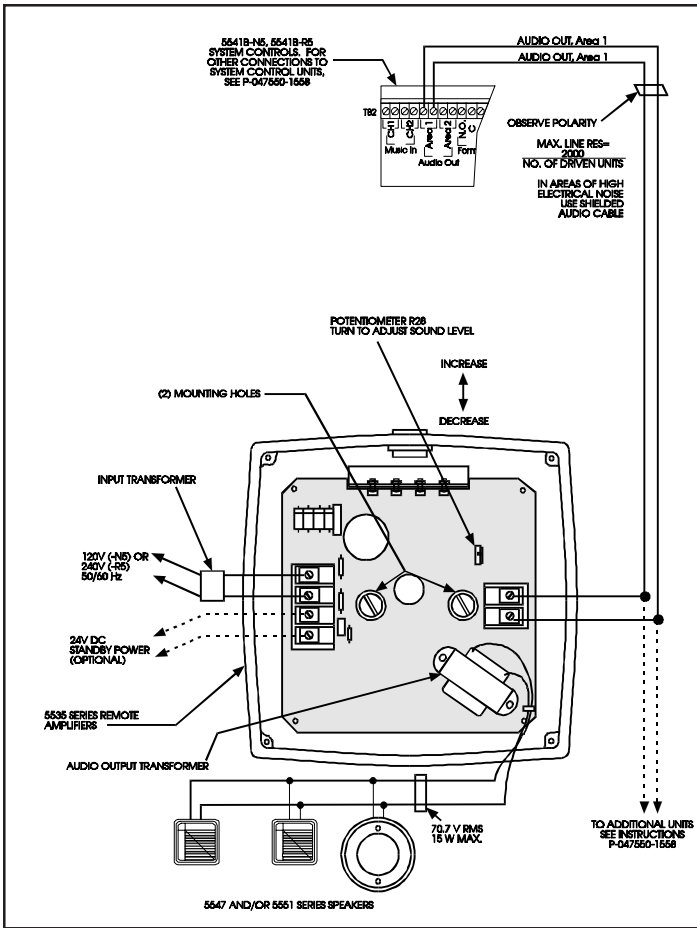

Figure 3. Remote Amplifier Wiring to System Control Unit (5541B Series Shown)
a. **Connecting 5535 Amplifier(s) to 5541 System Control Units** (Figure 3).
b. **Connecting 5535 Amplifier(s) to 5541B System Control Units** (Figure 3).
e. **Speaker Connections** (Figure 3 or 4). The Remote Amplifier provides up to 15 watts audio power to 70V line speakers. For best service use the Edwards 5547 and/or 5551B Series Speakers.
f. **Power Supply Connections** (Figure 3 or 4).
g. **Standby Power (Optional)** (Figure 3).
4. Adjust volume level, if desired, by turning potentiometer (Figure 3 or 4).